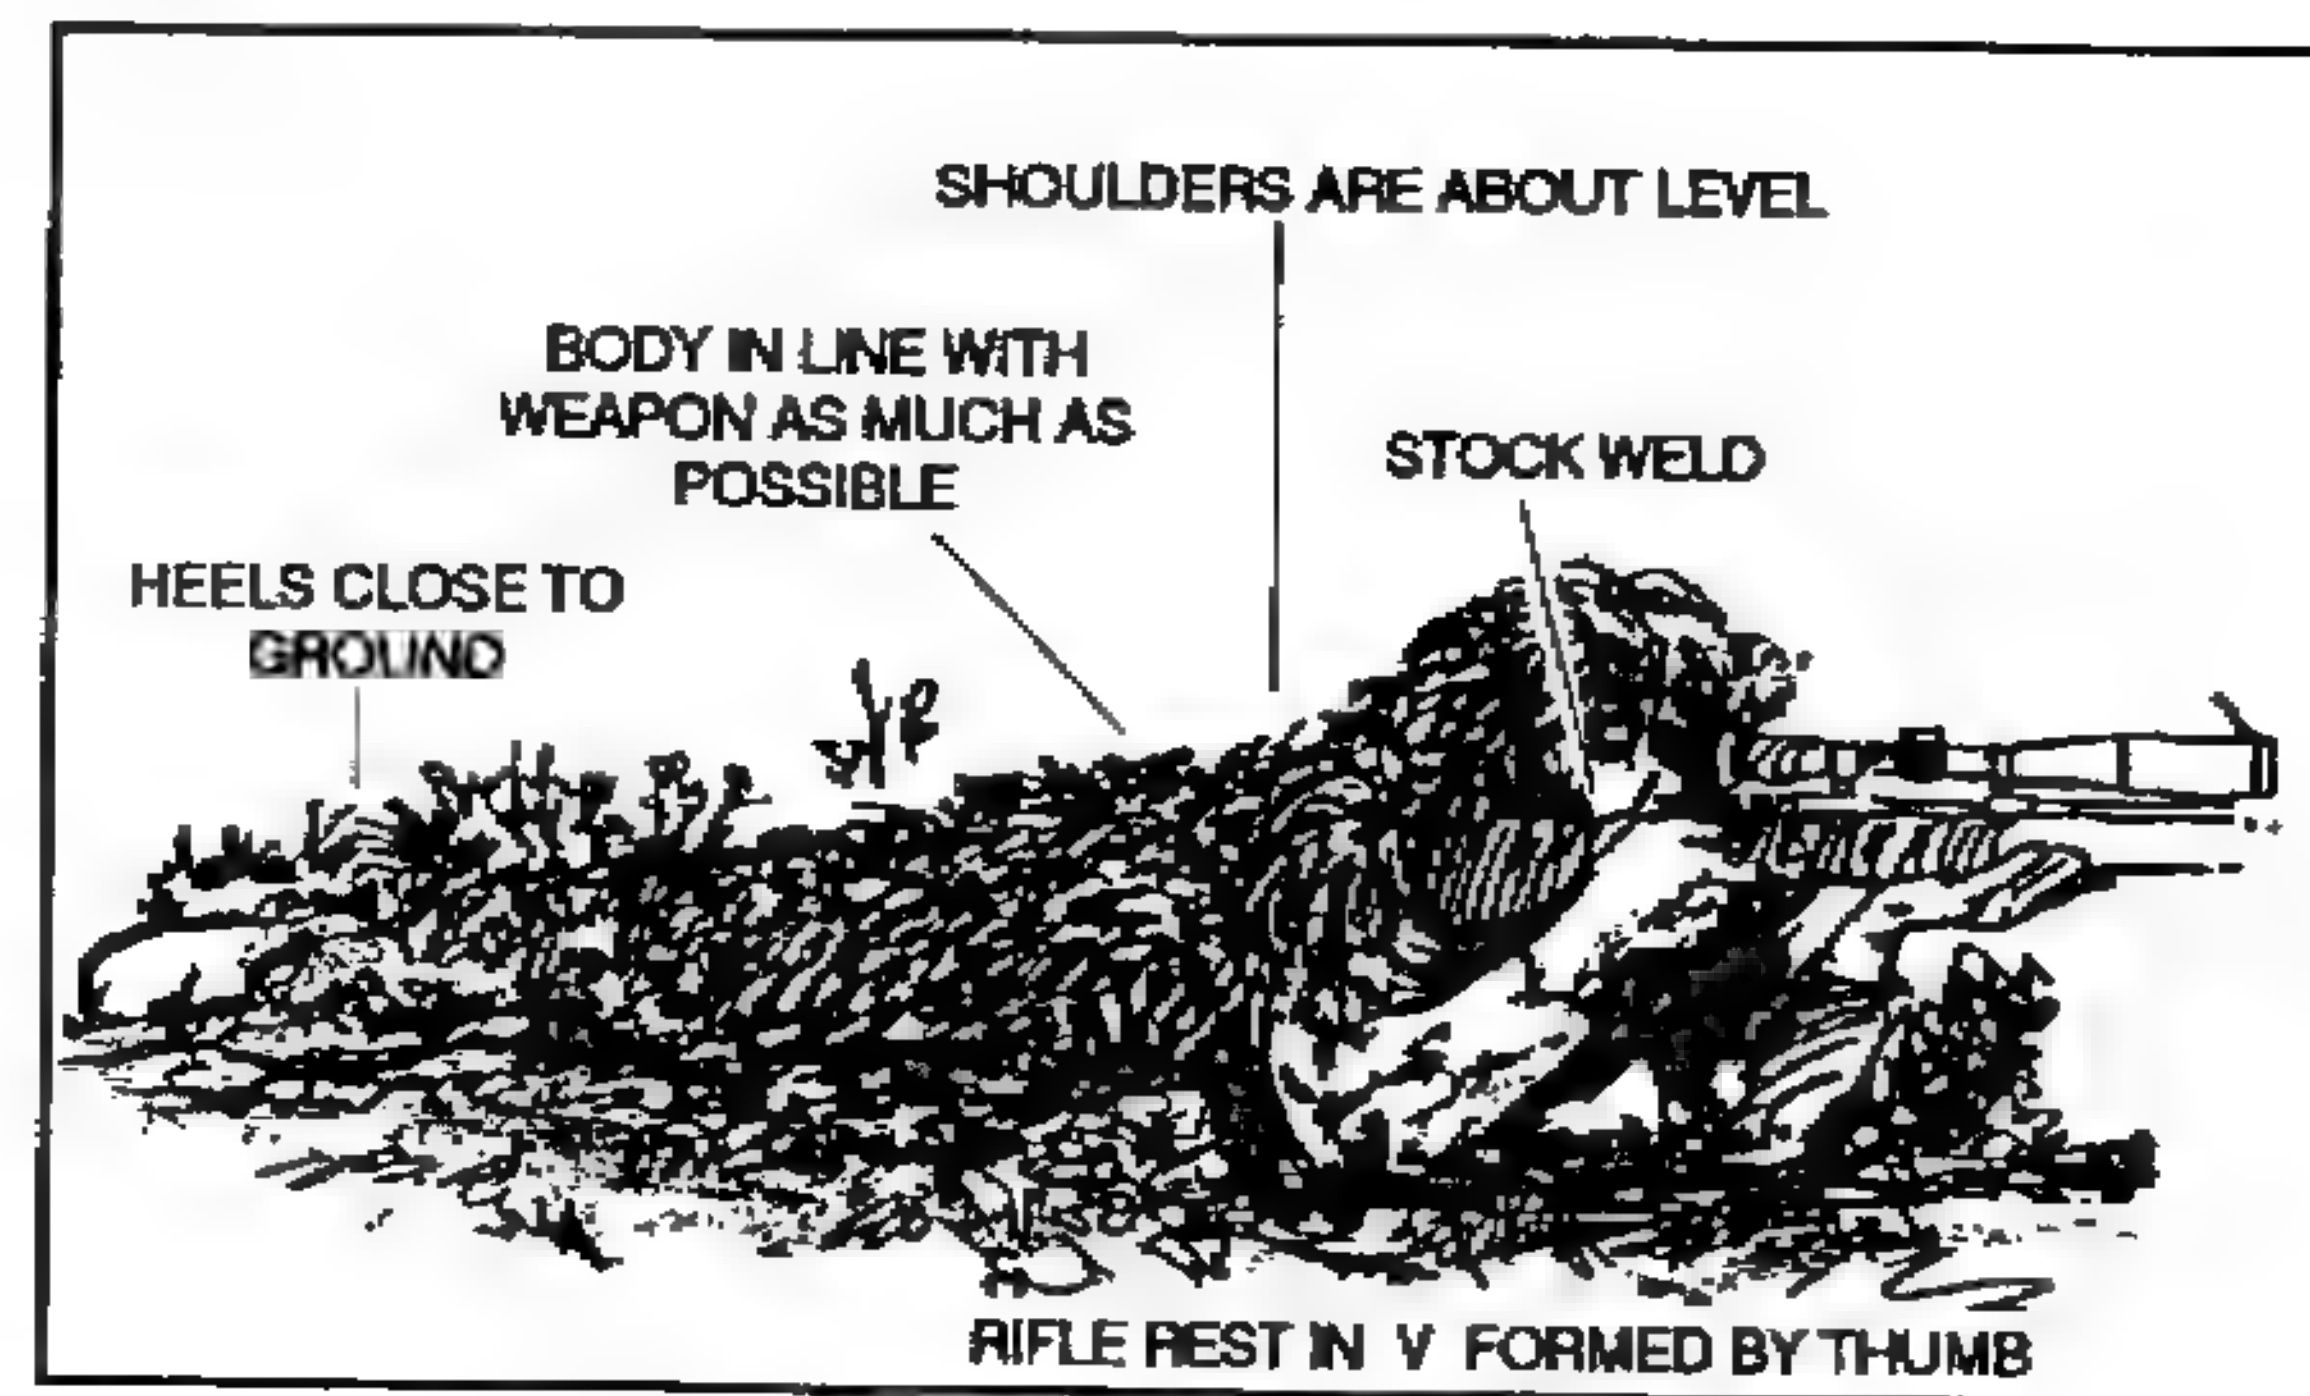

Figure 3-3. Prone unsupported position.
(2) **Prone unsupported position.** The prone unsupported position (Figure 3-3) offers another stable firing platform for engaging targets. To assume this position, the sniper faces his target, spreads his feet a comfortable distance apart, and drops to his knees. Using the butt of the rifle as a pivot, the firer rolls onto his nonfiring side. He places the rifle butt in the pocket formed by the firing shoulder, grasps the pistol grip in his firing hand, and lowers the firing elbow to the ground. The rifle rests in the V formed by the thumb and fingers of the nonfiring hand. The sniper adjusts the position of his firing elbow until his shoulders are about level, and pulls back firmly on the rifle with both hands. To complete the position, he obtains a stock weld and relaxes, keeping his heels close to the ground.